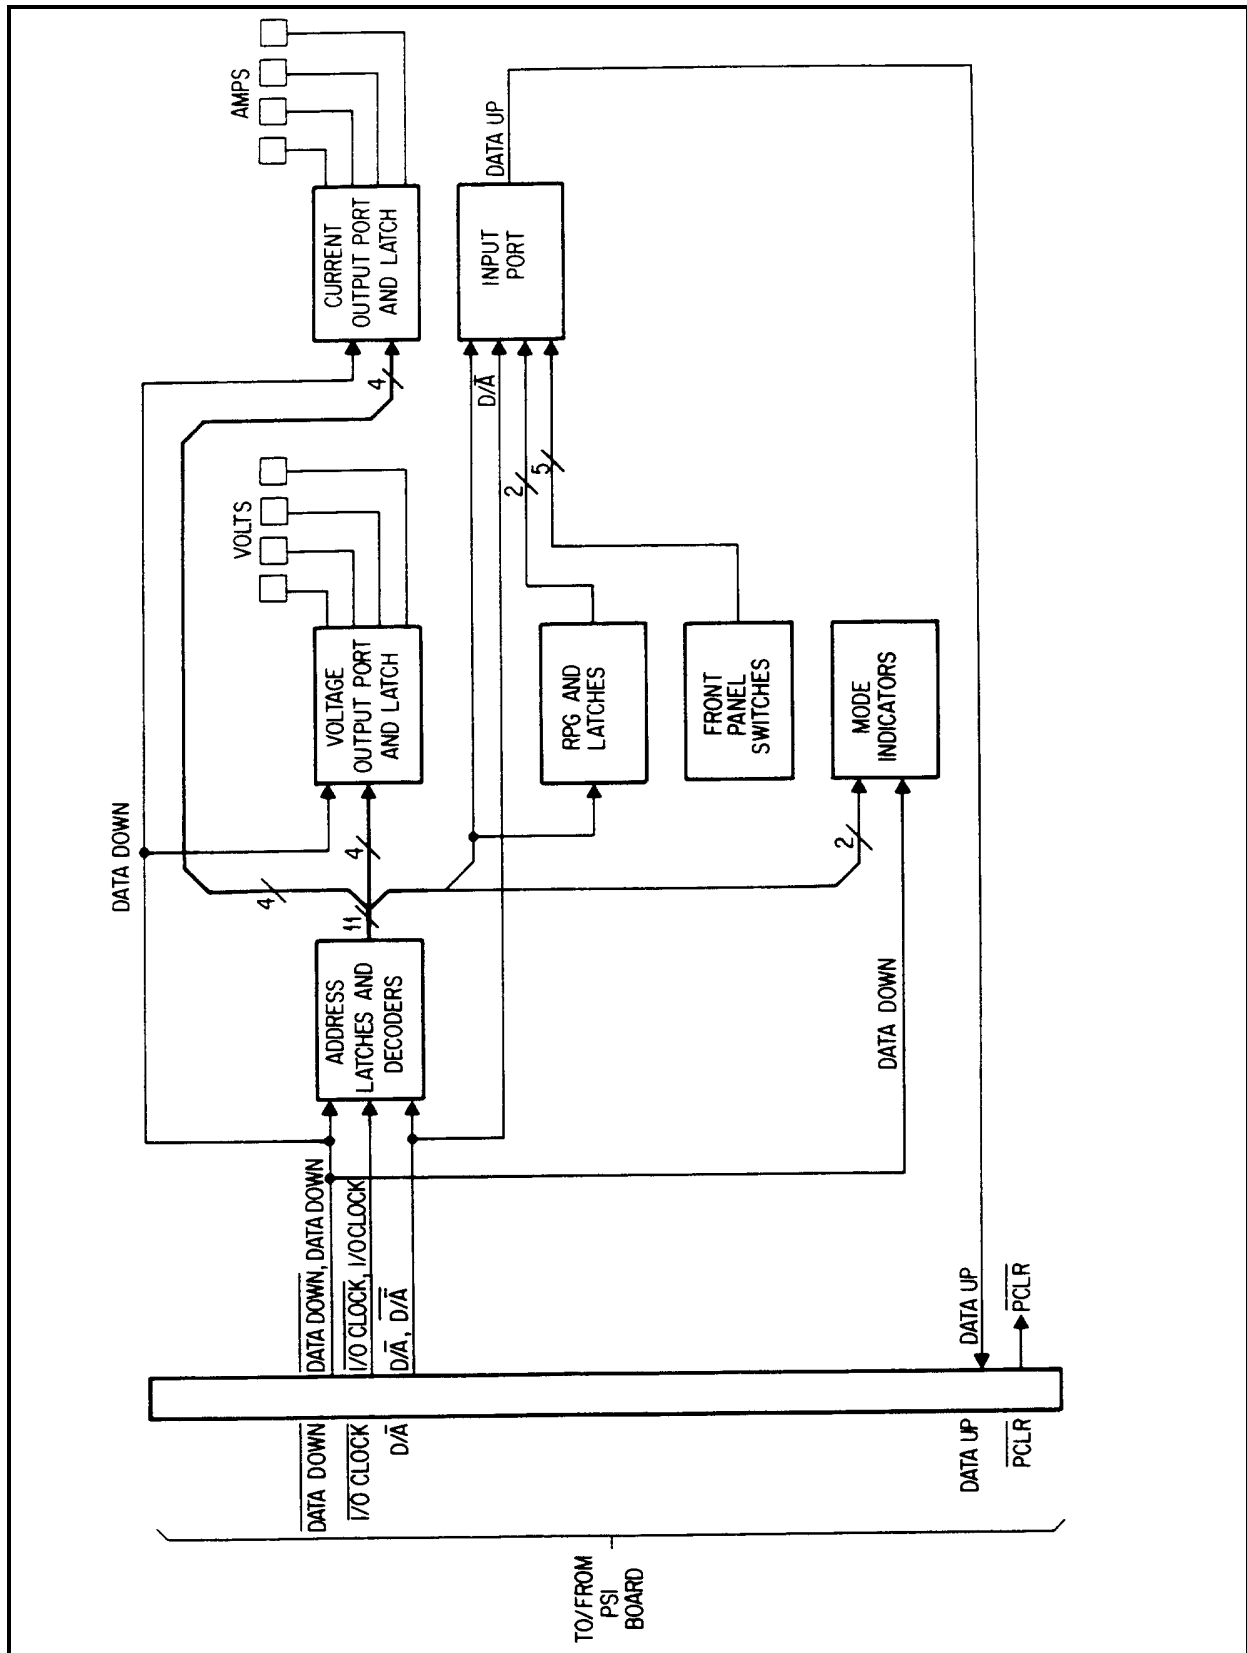

Figure 4-2. Front Panel Block Diagram
The front-panel board, see Figure 4-2, contains the VOLTS and AMPS display circuits, the rotary pulse generator (RPG) and RPG decoders, five pushbutton switches, mode indicators, and the OVP ADJUST potentiometer. Data from the microprocessor is shifted to the display circuits via  $\overline{\text{DATA DOWN}}$ , and data from the front-panel controls circuits is shifted to the microprocessor via DATA UP. Circuits on the front-panel board operate from bias voltages supplied from the GPIB board, and are referenced to the same common as the GPIB board (earth ground). The OVP ADJUST potentiometer is part of the power mesh control circuitry (referenced to power supply negative output), and is not connected to any circuits on the front-panel board.
1. DISPLAY CIRCUITS ARE SHOWN IN FIGURE 4-2.